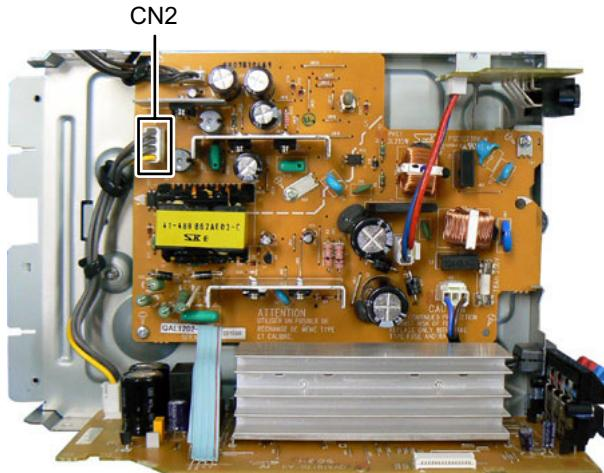

Fig.11
3.1.6 Removing the Amp board (See Fig.11, 12)
- (1) Disconnect the connector wire from Amp board connected to connector CN2 of the Power board. (See Fig.11)